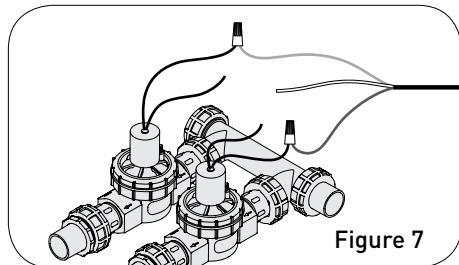

Figure 7
**Note:** The wire should hold firm when lightly pulled. If the wire moves freely, remove the wire and repeat Step 5. (Figure 7)